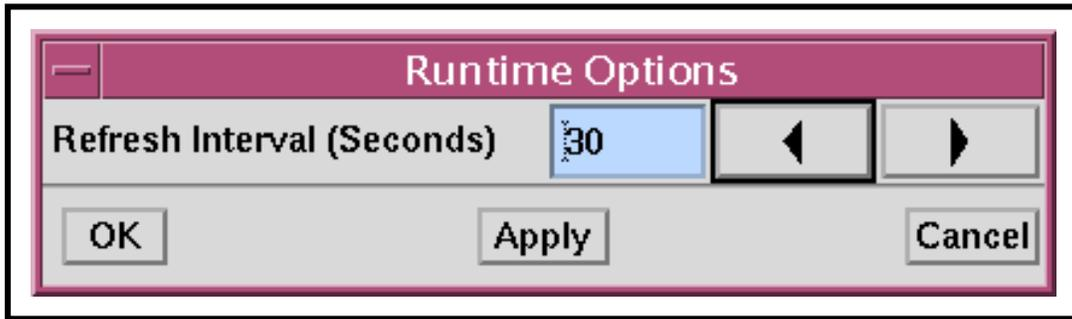

Figure 57. Runtime Options Dialogue Box for JobScope
- Figure 57 shows the **Runtime Options** dialogue box for **JobScope**.